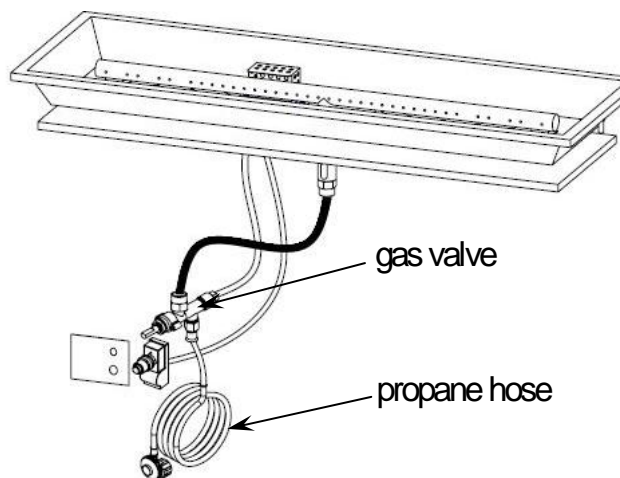

Figure 11
1. Disconnect the propane hose from the gas valve, see Figure 11.